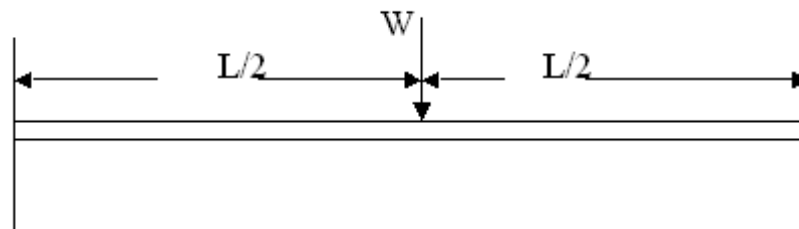

Figure 5
5. Find the deflection and slope using unit load method at the free end of a cantilever beam loaded as shown in figure5, assuming uniform flexural rigidity, EI. [16]